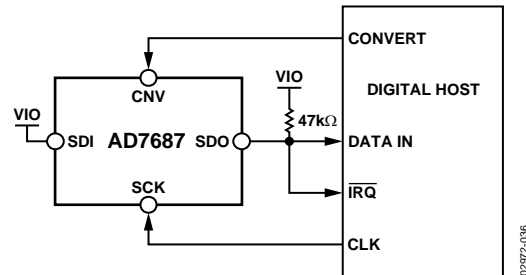
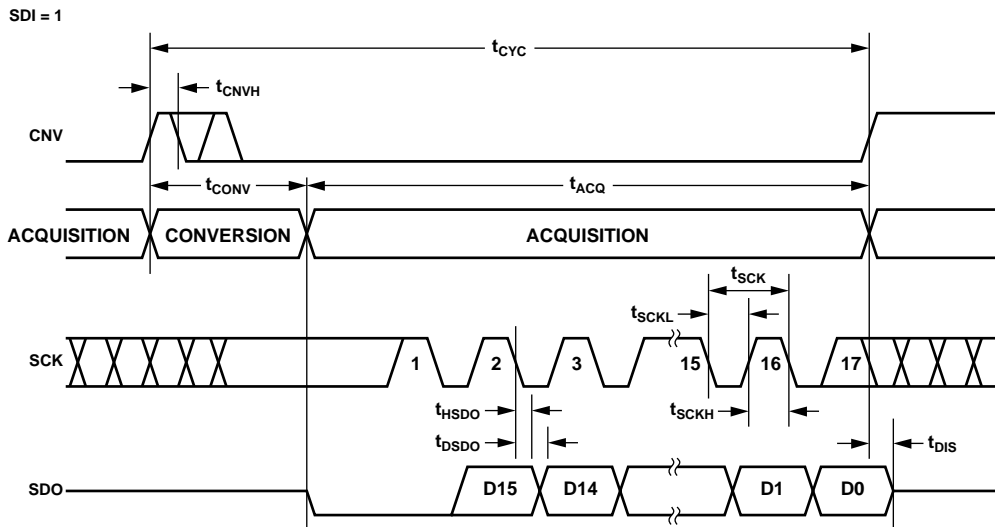
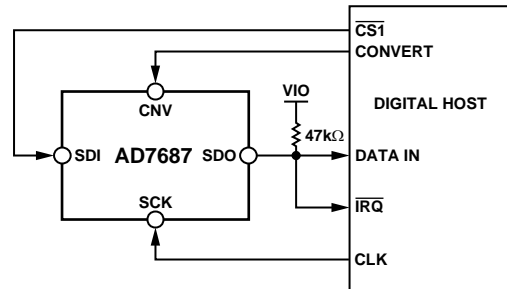
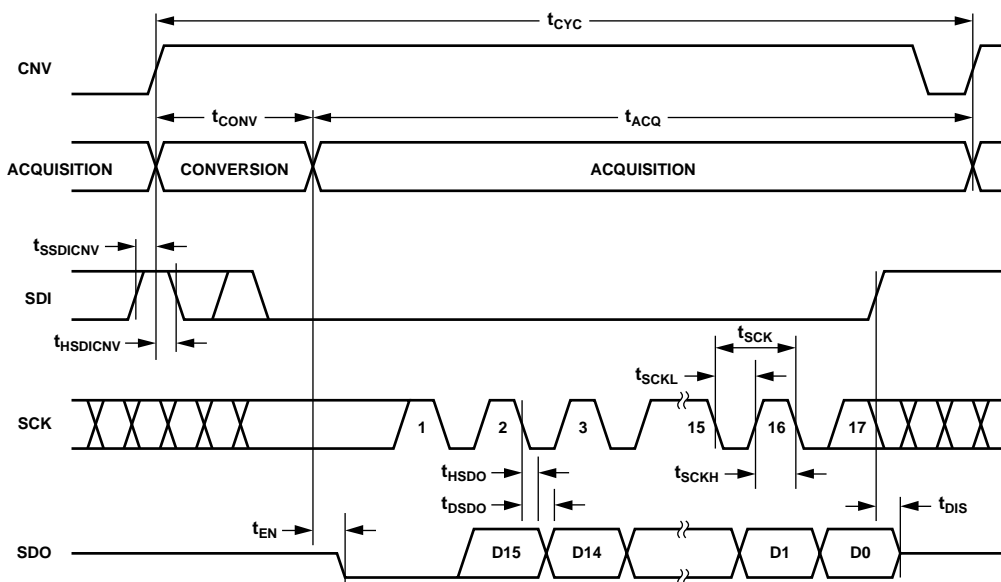

Figure 36. $\overline{\text{CS}}$ Mode, 3-Wire with BUSY Indicator Connection Diagram (SDI High)
Figure 37. $\overline{\text{CS}}$ Mode, 3-Wire with BUSY Indicator Serial Interface Timing (SDI High)
Figure 40. \overline{CS} Mode, 4-Wire with BUSY Indicator Connection Diagram
Figure 41. \overline{CS} Mode, 4-Wire with BUSY Indicator Serial Interface Timing
- In the \overline{CS} mode if \overline{CNV} or SDI is low when the ADC conversion ends (see Figure 37 and Figure 41).
Figure 36 shows the connection diagram and Figure 37 gives the corresponding timing.
Figure 40 shows the connection diagram and Figure 41 gives the corresponding timing.